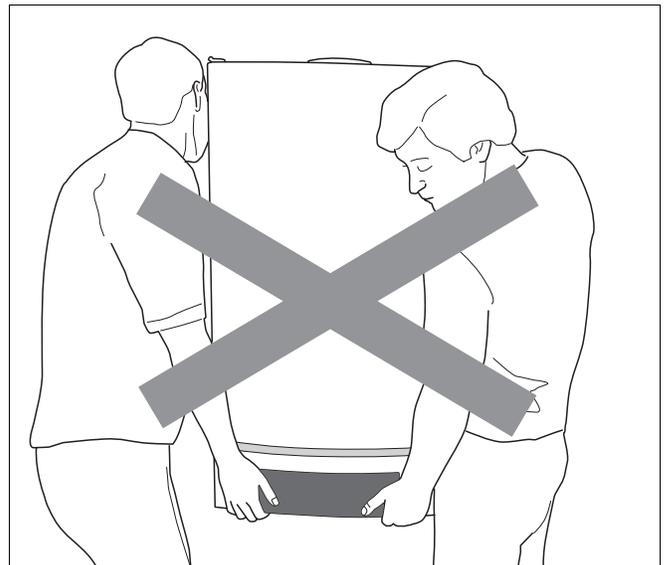

Fig. 6 Incorrect way of lifting and carrying the boiler
- Do not hold the boiler by the door covering the control panel (fig. 6).